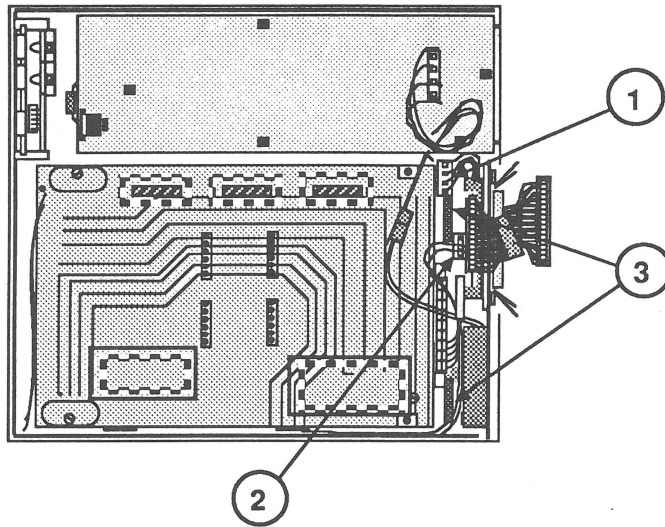

FIGURE 5
5. Disconnect the SCSI select switch cable (Figure 5, #1).
6. Disconnect the audio cable (Figure 5, #2) from the rear audio board.
7. Pull back the two large tabs (Figure 5, #3) on the floor of the case bottom, while lifting up the back edge of the CD SC drive.
2. Connect the SCSI select switch cable (Figure 5, #1).
3. Connect the audio cable (Figure 5, #2) to the rear audio board.
4. Push down gently on the back of the drive mechanism until the back edge of the metal frame is in place under the two tabs (Figure 5, #3).